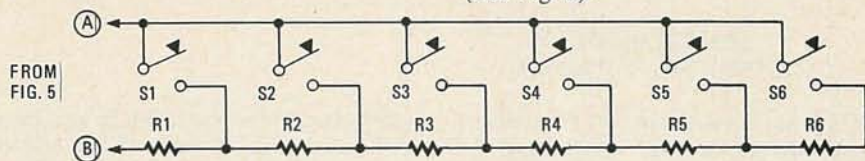

FIG. 6—THE CHORD ORGAN has six monophonic oscillators to cover three octaves. Each oscillator is tuned to six notes selected by the key arrangement shown.
*R_B IS SHOWN IN MORE DETAIL IN FIG. 6 AS A SERIES OF 6 FIXED RESISTORS.
ent values of R_B, each with its own switch (See Fig. 6).
- R_B—Calibrating resistors, selected by trial (see Fig. 6 and text)
To calibrate the organ, begin with the oscillator 6. Referring to Table 2, select R1 for 1865 Hz when S1 is closed. Then, select a value for R2 to play 1760 Hz when S2 is closed. Next, select R3 to play 932 Hz when S3 is closed, and so on. Similarly, proceed with oscillator 5 and the remainder, observing the frequency meter for correct frequencies. Don't try for an exact frequency in each case, but accuracy should be well within 0.5%. You may need two or even three resistors in series to reach the desired value. Here are the approximate values for the resistors shown in Fig. 6: